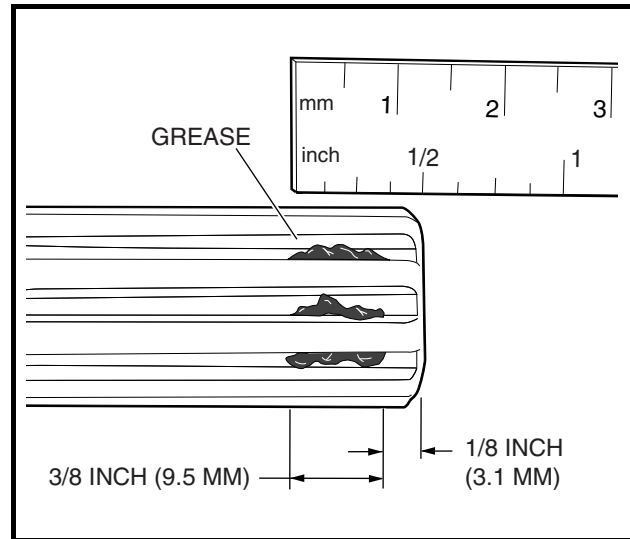

Figure 16a-14 Application of grease to Input Shaft Grooves
- 2.6. Check the chamfer and end of the input shaft to ensure these areas are completely clean of grease as shown (**Figure 16a-15, Page 16a-13**).